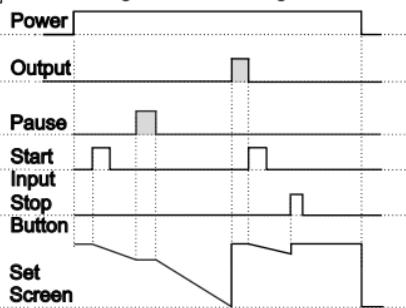

Figure 4.2
4.1.2 If Downcount `dEct`=1 and `outF` is `0FF` the control diagram is shown in Figure 4.2